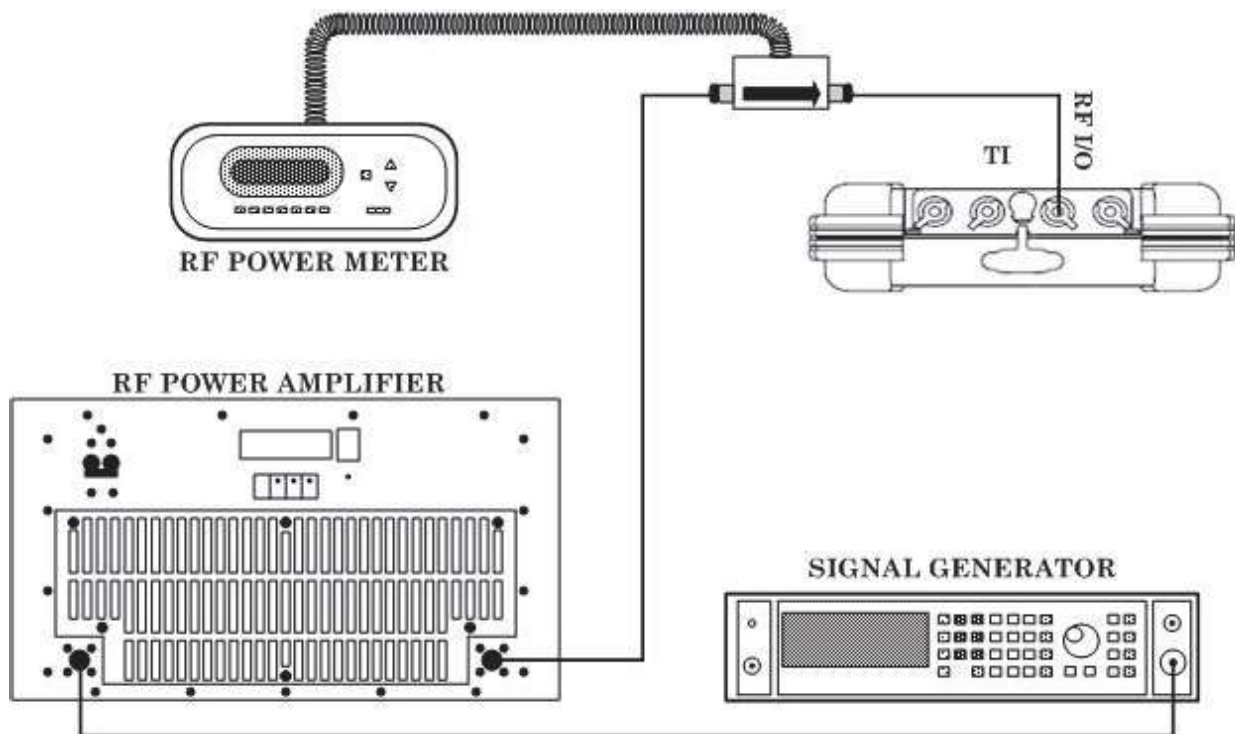

Figure 3. Power Meter Setup.
(1) Press **SETUP** to display **SETUP** mode screen.
(2) Set **PORT** to **RF I/O**.
(3) Press **MODE** until **COMM AM** mode screen is displayed.
(4) Connect RF reference source to TI **RF I/O** connector.
- (5) Set RF reference source for a 100 MHz, 100 mW output. If TI *TX PWR* does not indicate between 0.08 and 0.12 W, perform **b** below.
- (6) Change RF reference source frequency to 300 MHz. If TI *TX PWR* does not indicate between 0.08 and 0.12 W, perform **b** below.
- (7) Disconnect RF reference source from TI *RF I/O* connector.
- (8) Connect equipment as shown in figure 3.
- (9) Set signal generator to first frequency listed in table 36.
- (10) Adjust both signal generator and RF power amplifier outputs, as necessary, to obtain first rf power meter indication in table 36. If TI *TX PWR* does not indicate within the limits listed in table 36, perform **b** below.
- (1) Perform paragraph **6 g** to access **CALIBRATION** menu screen.
- (2) Press [**MISC CALS**] to display **MISC CALS** screen.
- (3) Press [**POWER METER**] to display **POWER METER CAL** sequence screen.
- (4) Disconnect test equipment from **TI RF I/O** connector.
- (5) Follow on screen prompts.
- (6) In **STEP 2**, when prompted to connect equipment to **RF I/O** port, reconnect equipment as shown in figure 3.
- (7) When calibration sequence is completed, press [**SAVE & RETURN**] to return to the **MISC CAL** screen.
- (8) Press [**RETURN**], as needed, to return to **SETUP** menu.